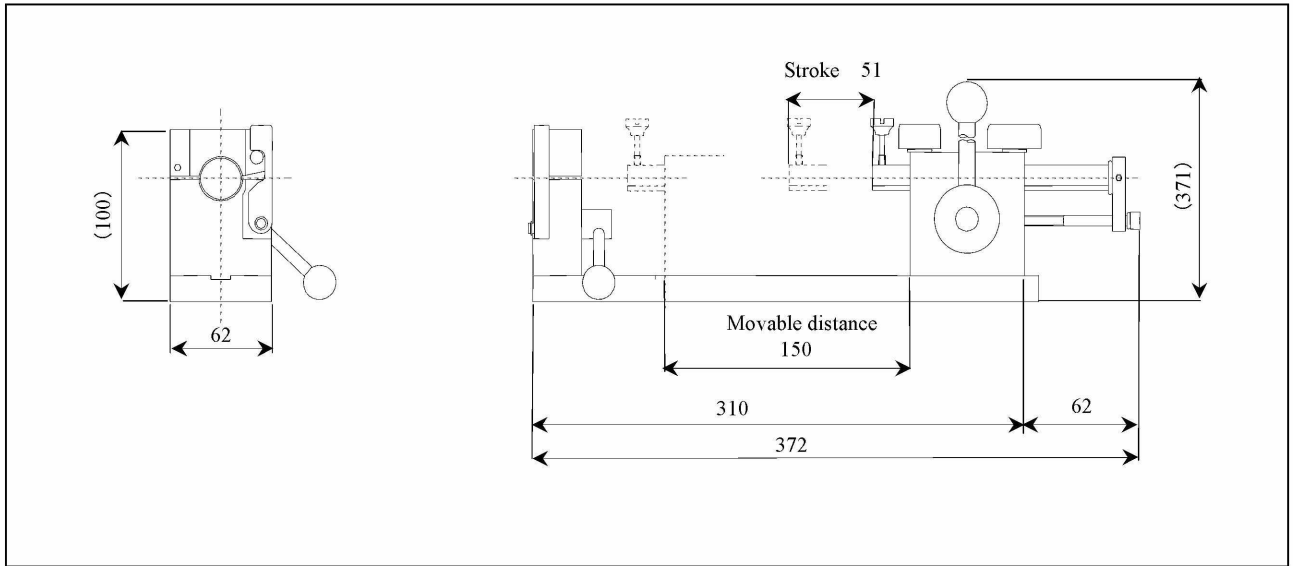
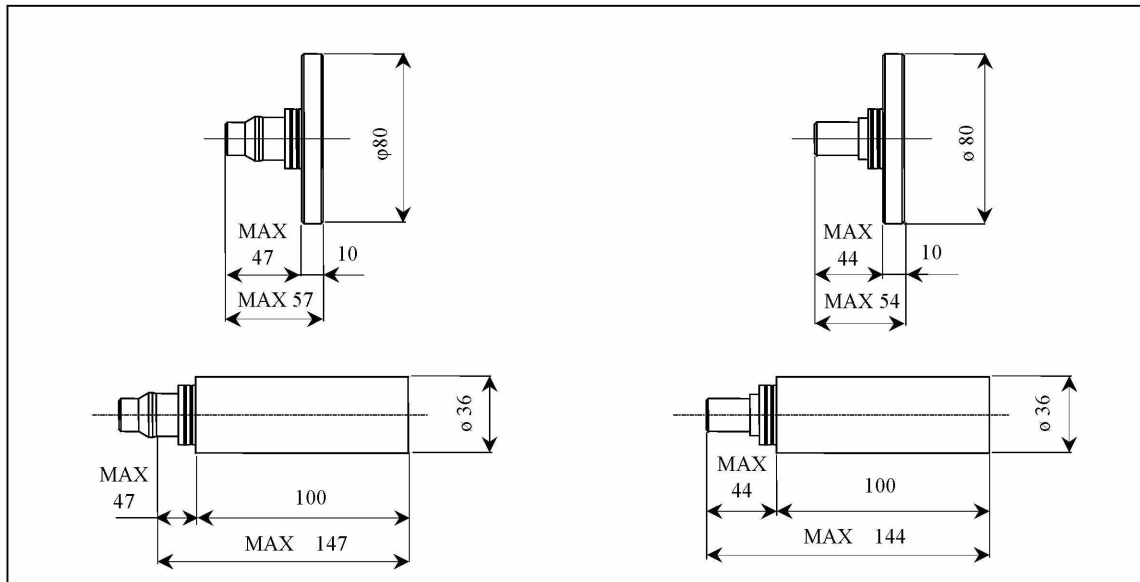

Fig. 79. Outer dimensions of JT-A4
Fig. 83 - Outer dimensions of P-FH and P-SH-H
- Fig. 79 to Fig. 83 show the external dimensions of the insertion units.